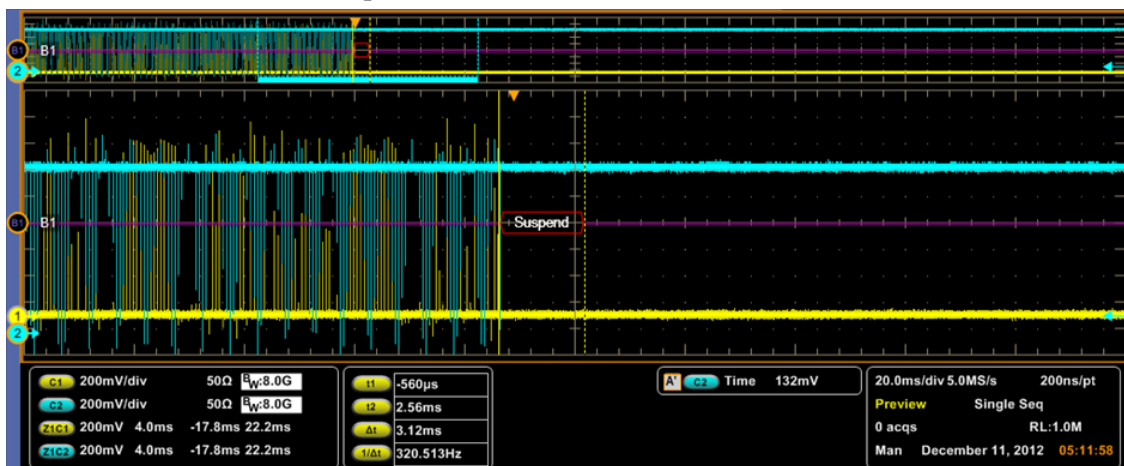

Figure 14 Suspend test
5. The waveform should look like Figure 14.